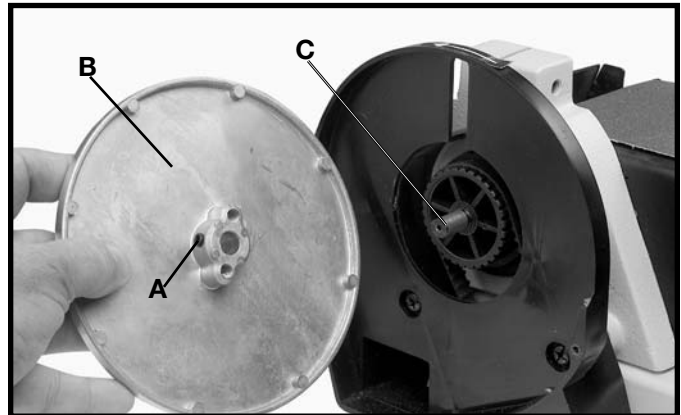

Fig. 7
2. Slide sanding disc plate (B) Fig. 7, on drive shaft (C) making sure flat on drive shaft is aligned with set screw (A) in hub of plate (B). Slide plate (B) onto shaft (C) until plate surface and shaft are nearly flush. Shaft must not extend out past surface of plate.